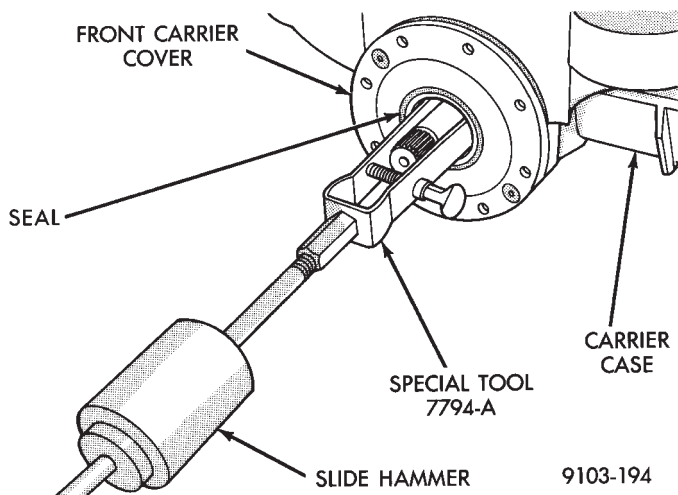

Fig. 10 Removing Seals
(11) Use seal puller 7794-A (Fig. 10) to remove the overrunning clutch seal and drive pinion seal. The overrunning clutch seal must be removed first to gain access to the drive pinion seal. The overrunning clutch seal must be replaced after the drive pinion seal is installed, do not reuse old seal.